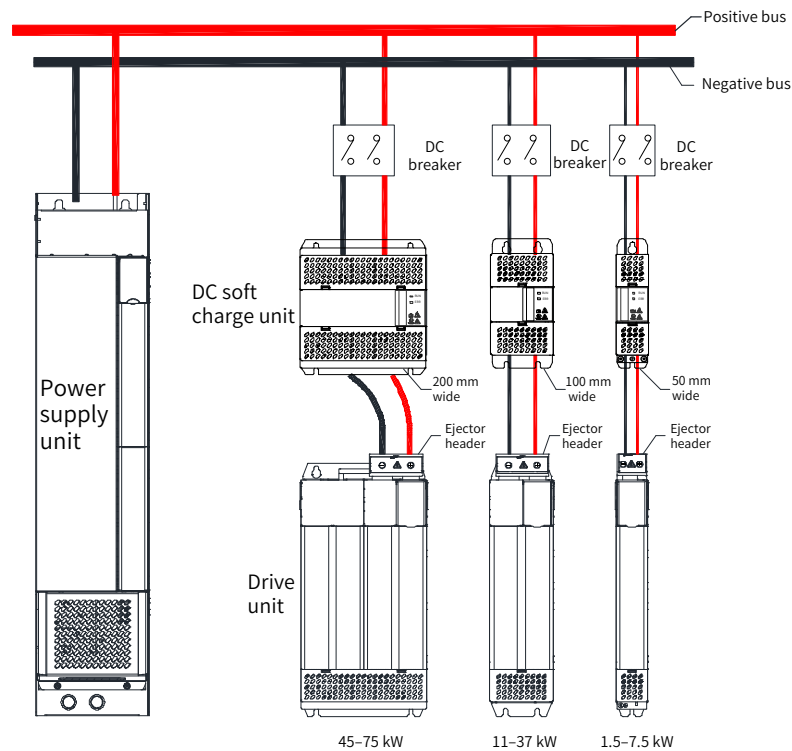

Figure 11-20 Installation diagram of the INOV-SU-30/INOV-SU-60/INOV-SU-100/INOV-SU-170 DC soft charge units
- ◆ For the recommended models of DC circuit breakers in Figure 11-20, see "11.5.5 DC Circuit Breakers"
After you select a DC soft charge unit, a DC circuit breaker must be arranged between the DC soft charge unit and the power supply unit. For details about wiring of the DC circuit breaker, see the example in "Figure 11-20 Installation diagram of the INOV-SU-30/INOV-SU-60/INOV-SU-100/INOV-SU-170 DC soft charge unit".